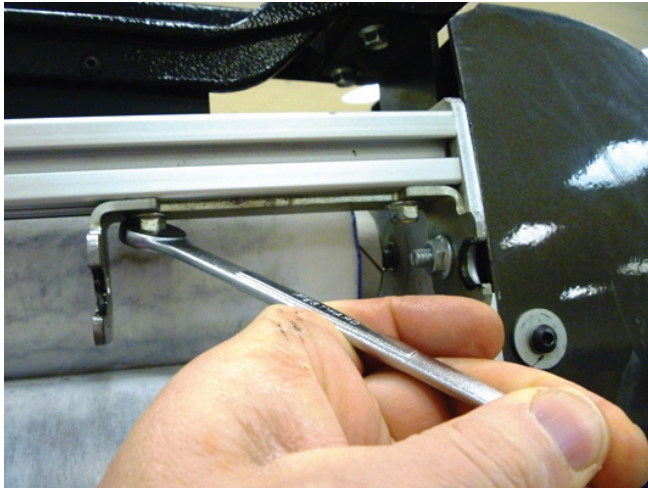

Figure 2
2. Using a 3/8" wrench, remove the two upper bolts in the old bracket. Refer to *Figure 2*.